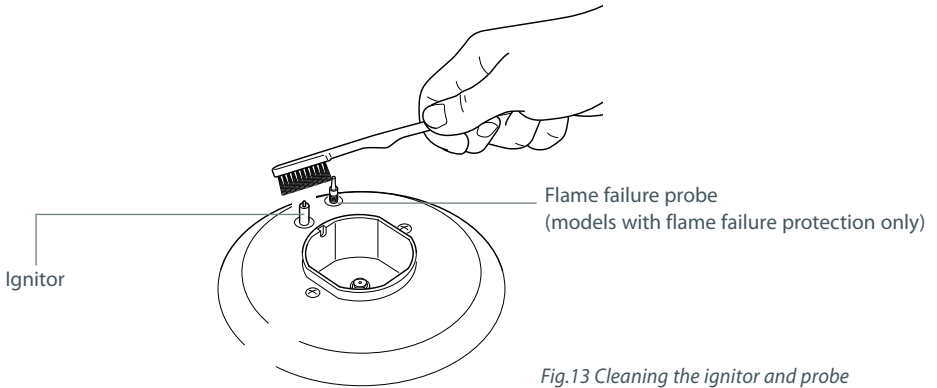

Fig.13 Cleaning the ignitor and probe
- the igniters are sparking. If they are not sparking, they may be dirty or wet. Clean them with a toothbrush and methylated spirits, as shown in Fig. 13 below. See 'Care and cleaning' for instructions on removing and replacing the burner parts.